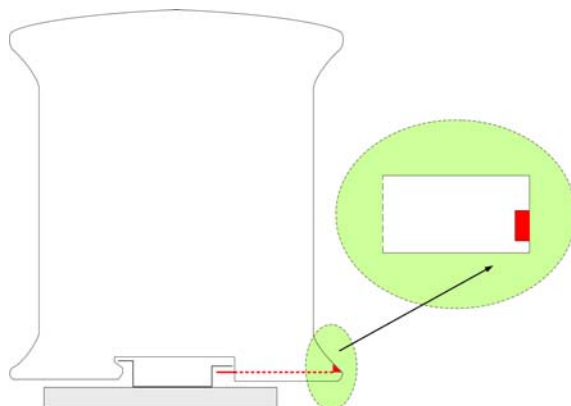

Figure 11.10 Locking device of the LRU (section)
1. Secure the LRU with your one hand and pull the red locking device away from the component, refer to Figure 11.10.